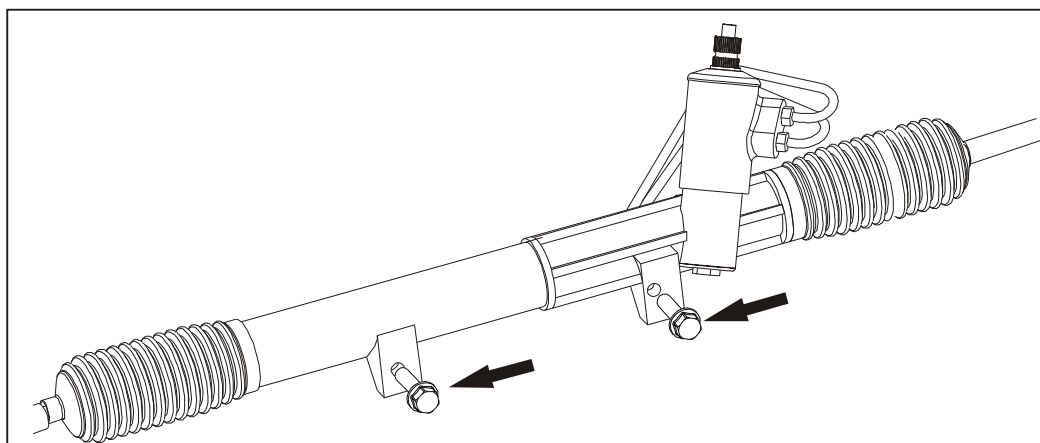

Figure 6-21 Disassembly of steering gear
3. Screw off the two erection bolts for steering gear and pick up the steering gear assembly as shown in Figure 6-21.